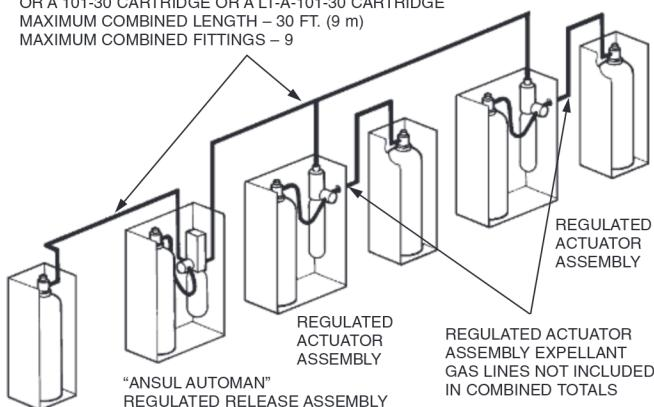

FIGURE 81
- 3. If an expellant gas line is connected to the regulated release assembly along with an actuation gas line, the total combined length of the actuation and expellant gas line **must not exceed** 30 ft. (9 m) when using a "double-tank" nitrogen cartridge or a LT-A-101-30 nitrogen cartridge or a 101-30 carbon dioxide cartridge. See Figure 81.
3. If two tanks are connected to the regulated release assembly in a multiple-tank system arrangement, the total combined length of the actuation and expellant gas lines **must not exceed** 30 ft. (9 m) when using a "double-tank" nitrogen cartridge, an LT-A-101-30 nitrogen cartridge, or a 101-30 carbon dioxide cartridge. See Figure 81.